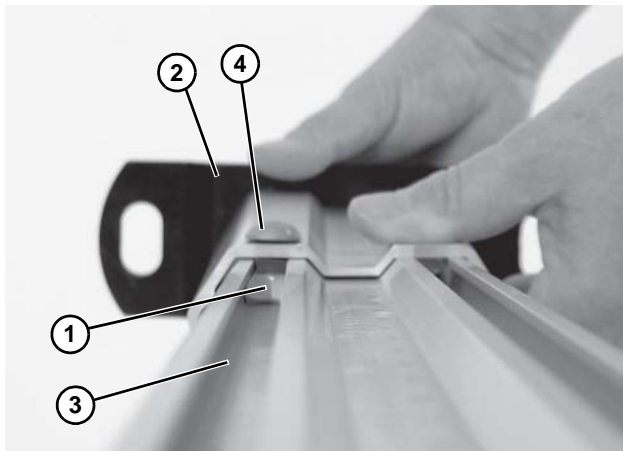

Figure 13
Failure to secure screws (Figure 13, item 4) may cause conveyor sections to drop down causing severe injury.
TIGHTEN SCREWS (Figure 13, item 4) AFTER ADJUSTMENT.
- Slide (2) hex nuts (Figure 13, item 1) along with boot assembly (Figure 13, item 2) into outer slots of stand assembly (Figure 13, item 3). Tighten button screw (Figure 13, item 4) to 150 in-lb (17 N-m).